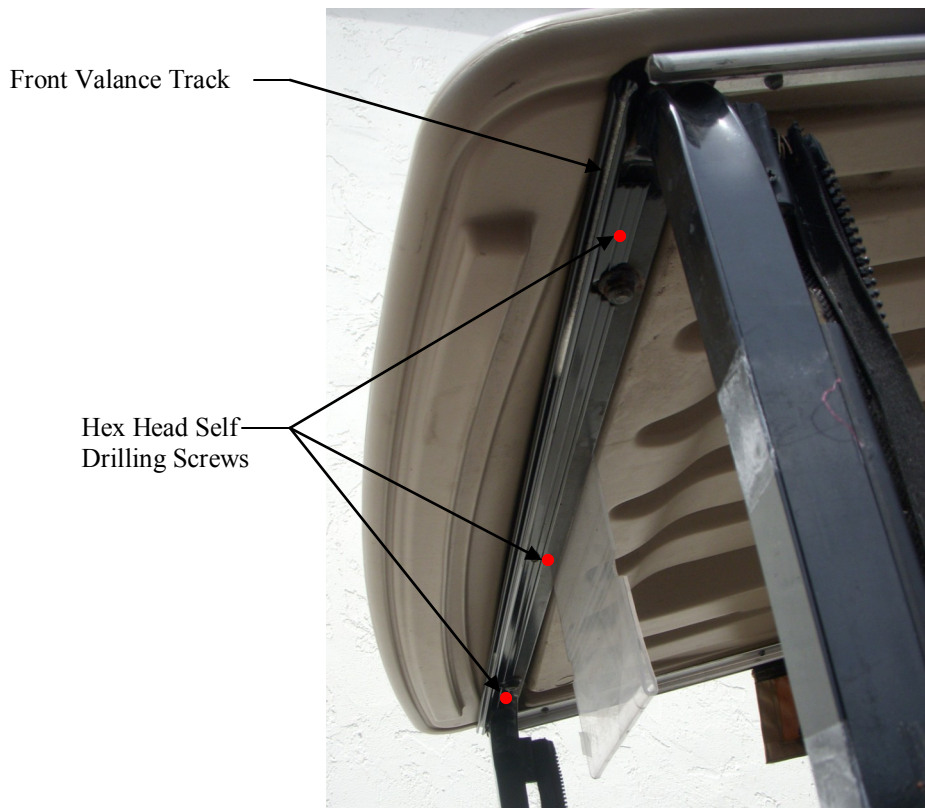

Figure 1-1
2. Position the front valance track on the bottom of the front roof support. The two V-notches in the track should wrap around the roof support bolts if positioned correctly. Secure the track with the supplied hex head self drilling screws in the 3 locations as shown in figure 1-1.